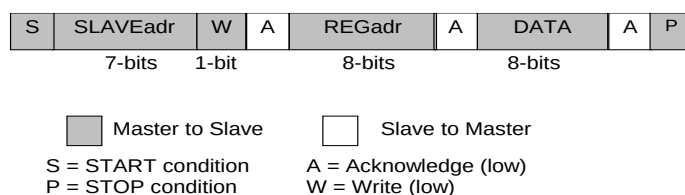
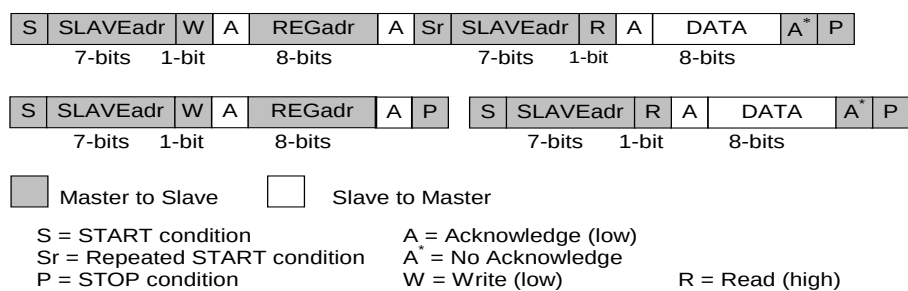

Figure 12. I²C Byte Write (SDA Line)
Figure 13. I²C Byte Read (SDA Line) Examples
The I²C bus is monitored for a valid slave address whenever the interface is enabled. It responds immediately when it receives its own slave address. The acknowledge is done by pulling the SDA line low during the following clock cycle (white blocks marked with A in Figure 12 and Figure 13).
The protocol for a register write from master to slave consists of a START condition, a slave address with read/write bit, and the eight-bit register address followed by eight bits of data, terminated by a STOP condition. DA9130 responds to all bytes with acknowledge (A), see Figure 12.
When the host reads data from a register it first has to write to DA9130 with the target register address and then read from DA9130 with a repeated START, or alternatively a second START, condition. After receiving the data, the host sends no acknowledge (A*) and terminates the transmission with a STOP condition, see Figure 13.